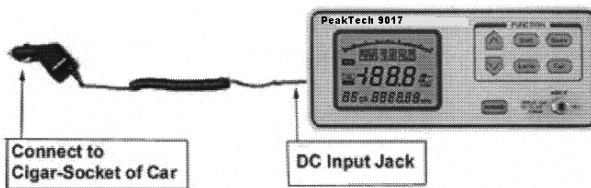

Fig 4-2 Charging by power from Cigar-Socket of car
7.3.1. Charging by power from Cigar-Socket of car (Figure 4-2)